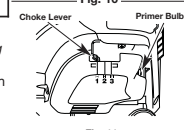

Fig. 11
3. Fully press and release the primer bulb 10 times, slowly. Some amount of fuel should be visible in the primer bulb (Fig. 11). If fuel cannot be seen in the bulb, press and release the bulb until fuel is visible.
4. Move the choke lever to **Position 1** (Fig. 11).
6. **Continue to squeeze the throttle control.** Move the choke lever to **Position 2** (Fig. 11).
9. **Continue to squeeze the throttle control.** Move the choke lever to **Position 3** (Fig. 11).